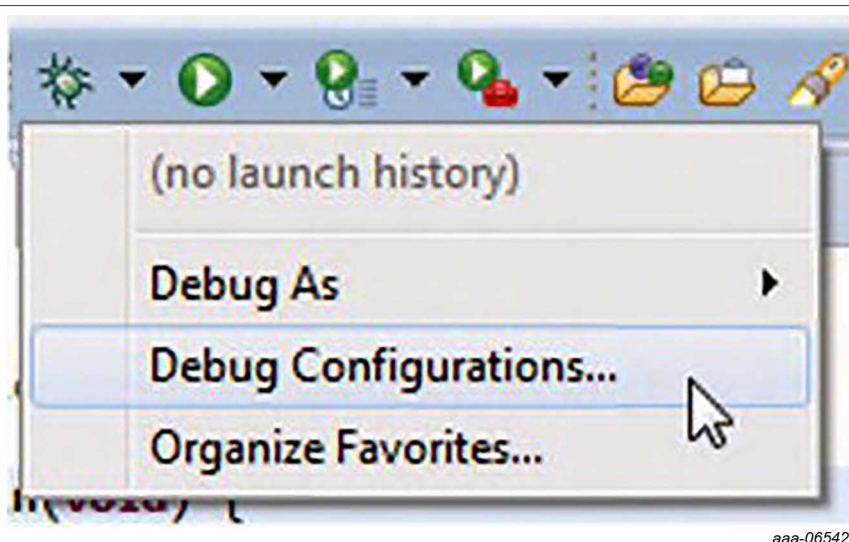

Figure 23. Downloading the application (a)
1. Select the arrow next to the debug icon in the toolbar and select **Debug Configurations**, see Figure 23.